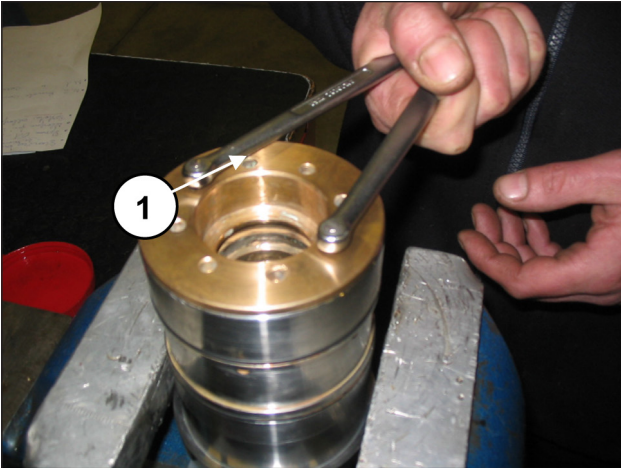
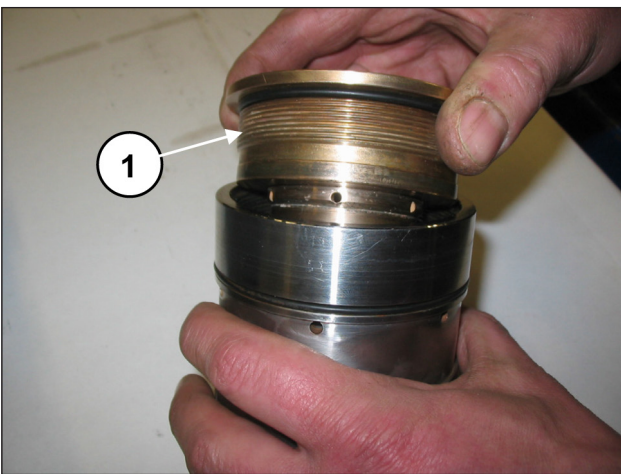

Fig. 145
Fig. 146
Separate the gasket support from the liner by using a compass spanner with Ø5 round ends, available on the market (pos. ①, Fig. 145) and unscrew the support until it is completely removed (pos. ①, Fig. 146).